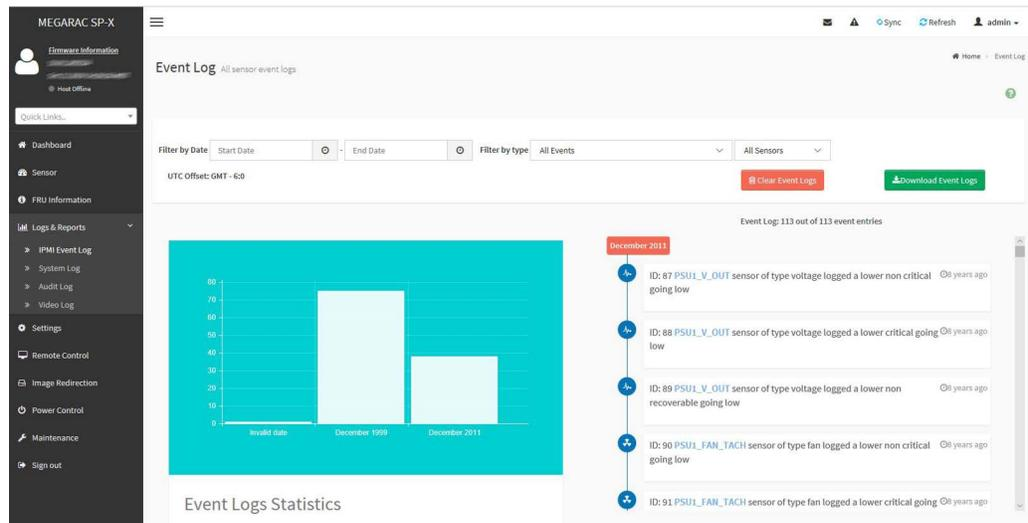

Figure 7.13 Logs & reports
- The Logs & Reports menu enables the user to view logs for IPMI events, system events, audits, and video as shown in Figure 7.13 on page 89.